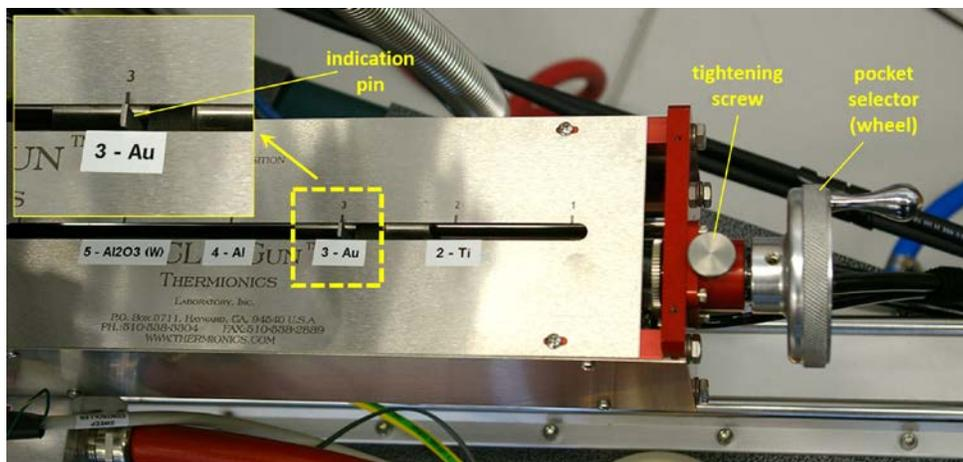

Fig. 15. Material selector.
- 3) Use the material selector wheel to choose the required material crucible. Note that the pin of the selector must exactly align with the mark on the panel as shown on Fig. 15.